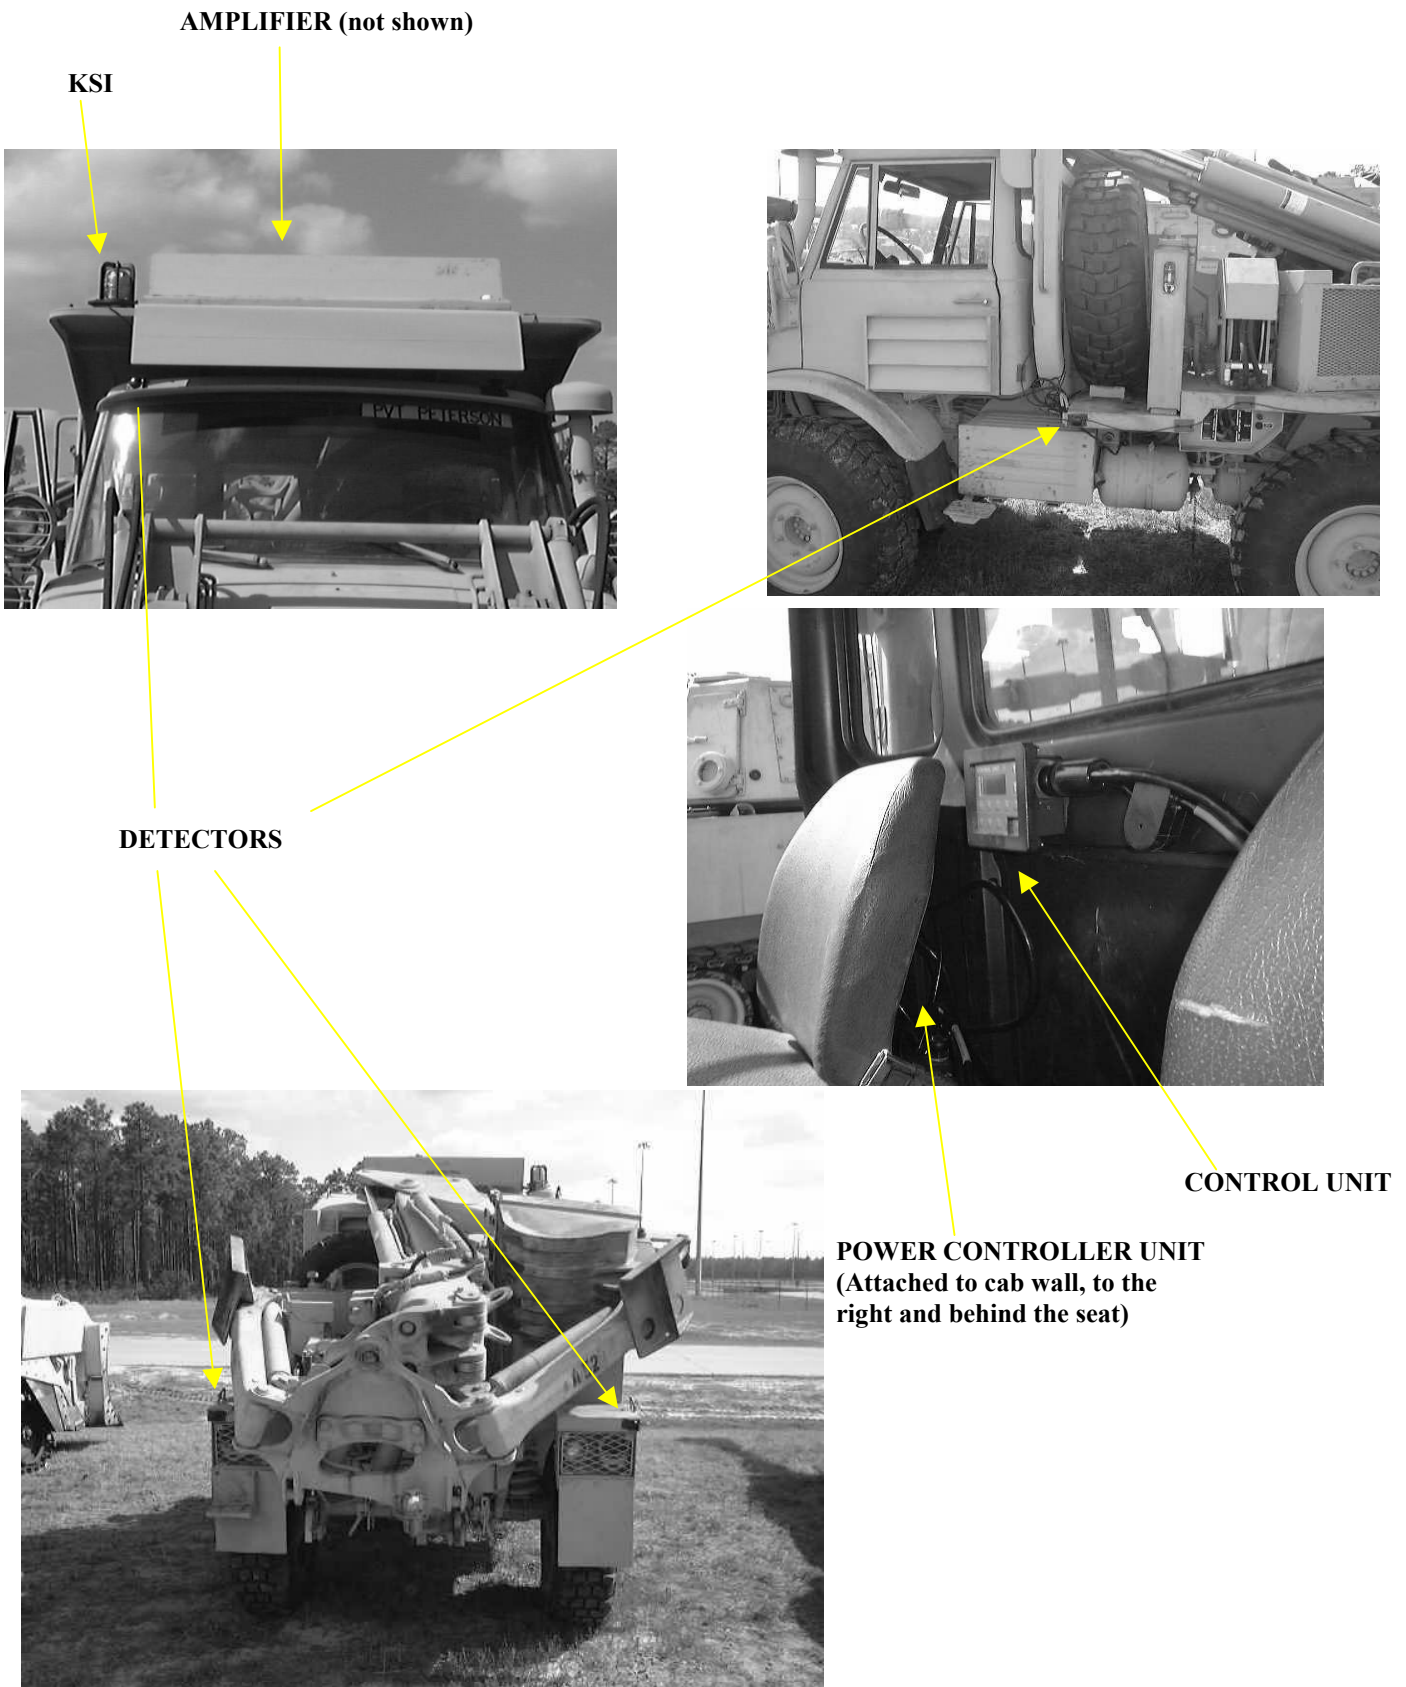

Figure 2-8. FLU 419 Small Emplacement Excavator MILES Installation.
2.3.2.3 FLU 419 Small Emplacement Excavator (SEE). (See Figure 2-8.) See Figure 1-2 for Independent Target System (ITS) component.
- e. Apply primer and fastener tape to the cab top shield of the vehicle (See Figure 2-8).
2.3.2.3.3 Control Unit (CU).
- e. Apply primer and fastener tape to the vehicle wall as illustrated in Figure 2-8.
- d. Apply primer and two (2) strips of fastener tape to the bottom of the Power Controller, if needed. (Refer to paragraph 2.3.1.1 for fastener tape application.)
- e. Apply primer and fastener tape to vehicle cab wall behind the commander's seat where the Power Controller will not be in the way (See Figure 2-8).